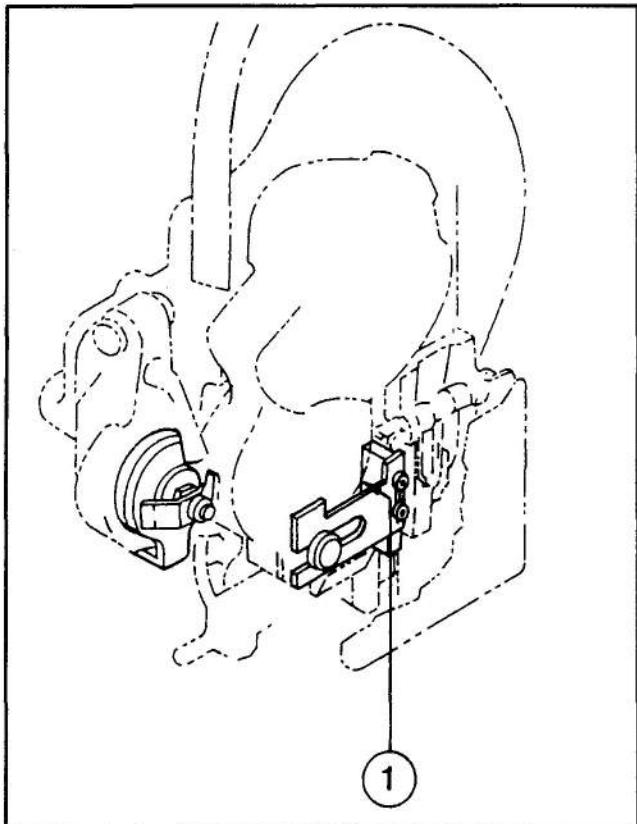

Figure 11 — Cutter Block Scale
A length of wire draw scale, similar to that on the standard wire draw heads, is provided on the long and extra long wire draw head plates. In addition, another scale corresponding to the wire draw scale is provided on the cutter block and its holding plate, (1) Fig. 11. This scale provides a means of adjusting the staple left leg (positioning the cutter block) according to the wire draw setting. On these two scales the extreme right hand mark represents the maximum length of wire draw — i.e., on long wire draw head  $2\frac{3}{8}"$  (60.3mm), and on extra long wire draw head  $3\frac{1}{2}"$  (88.9mm). The other graduations in the scale do not represent any definite length of wire draw, but are used for setting the cutter block to coincide with the setting of the wire feed guard. If the wire feed guard is set at maximum wire draw — extreme right hand marking — the cutter block must be set at the same marking, etc.